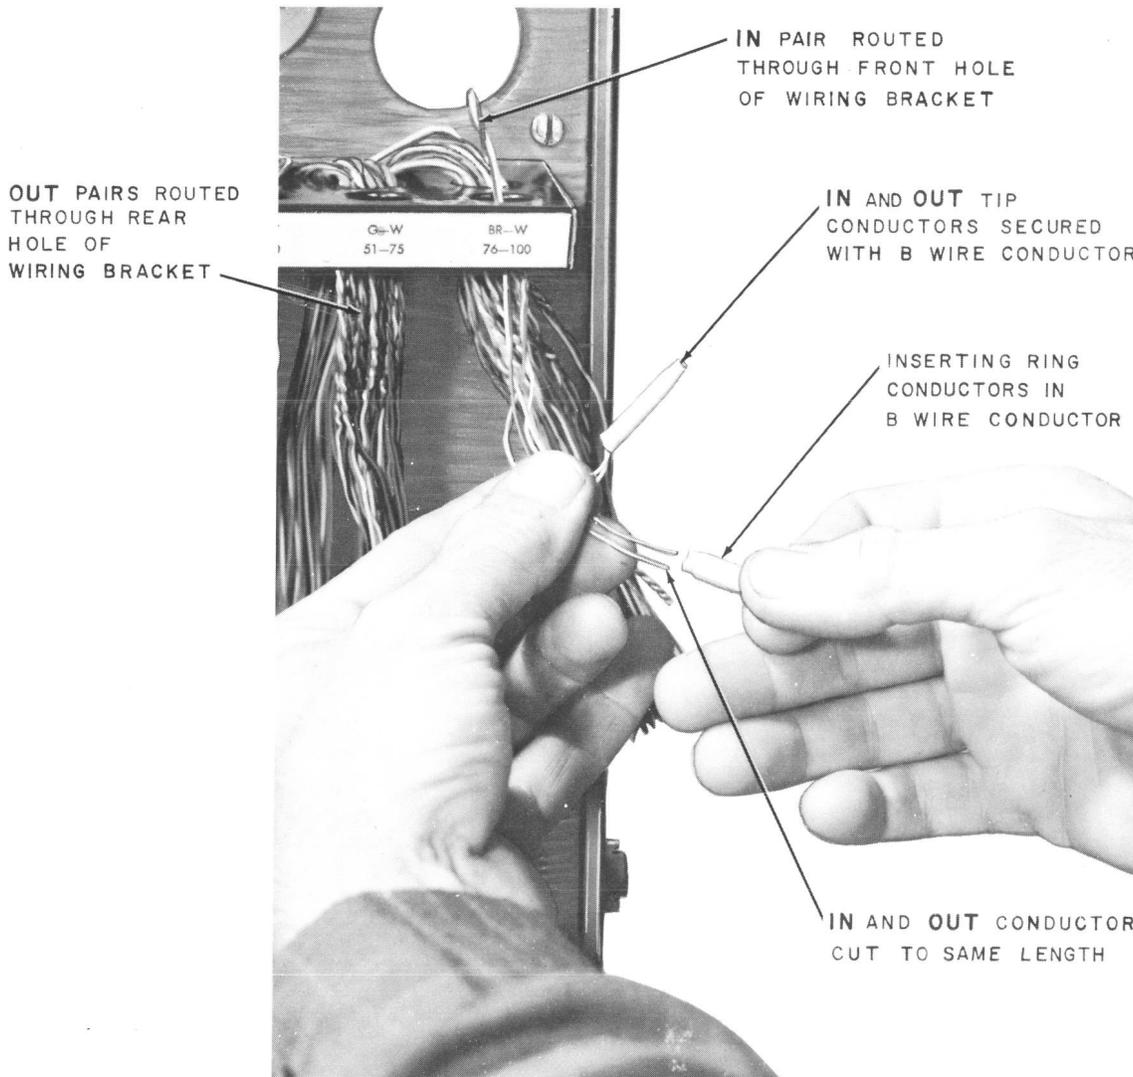

Fig. 10—Connecting **IN** and **OUT** Cable Pair
5.06 Cut the assigned **IN** pair to the same length as the assigned **OUT** pair and connect with a B Wire Connector as shown in Fig. 10. If for any reason the **IN** pair is shorter than the **OUT** pair, piece out the **IN** pair (Part 6). Do not cut the **OUT** pair. Use only a B Connector Presser or Pneumatic Presser for crimping the B Wire Connectors.